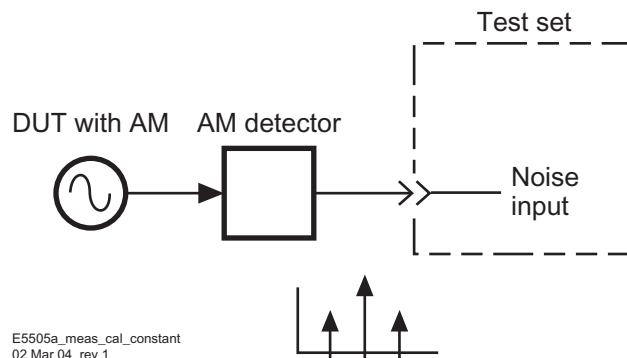

Figure 233 Measuring the calibration constant
- Enter the carrier-to-sideband ratio and offset frequency, then measure the calibration constant. See Figure 233.